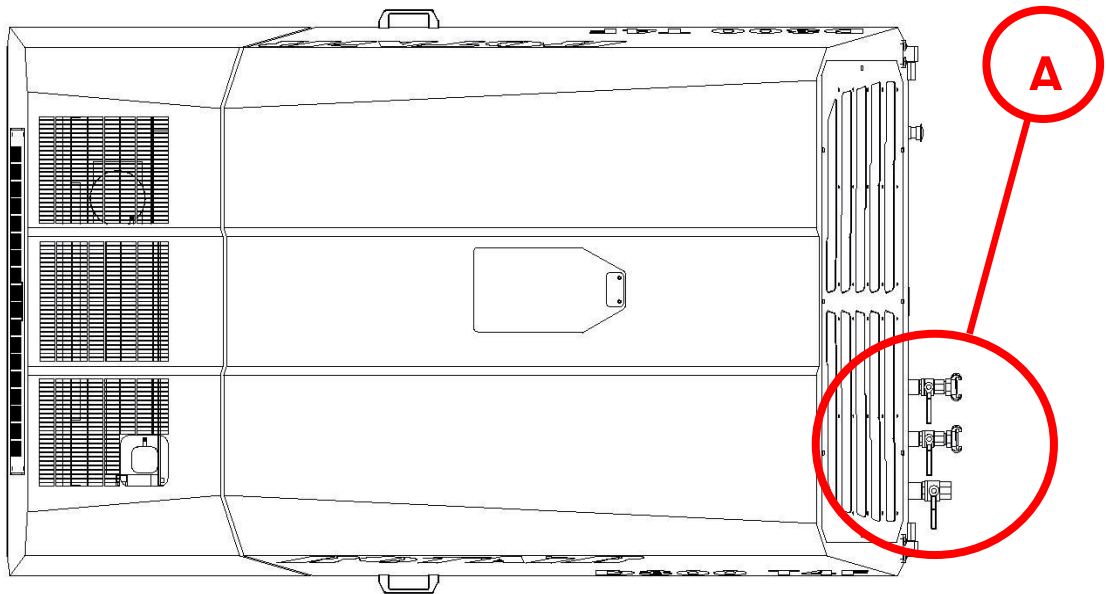

Figure 10.2-1 Location of the taps (top view)
- 3) Progressively open the taps (Letter A Figure 10.2-1).
3. Gradually open the air valve (Letter A in Figure 10.2-1);
5. Release the lock-nut (1).
6. Tighten the regulation screw (2) to increase the pressure to the desired value.
7. Loosen the regulation screw (2) to reduce the pressure to the desired value
8. Tighten the lock nut (1) and close the cocks.